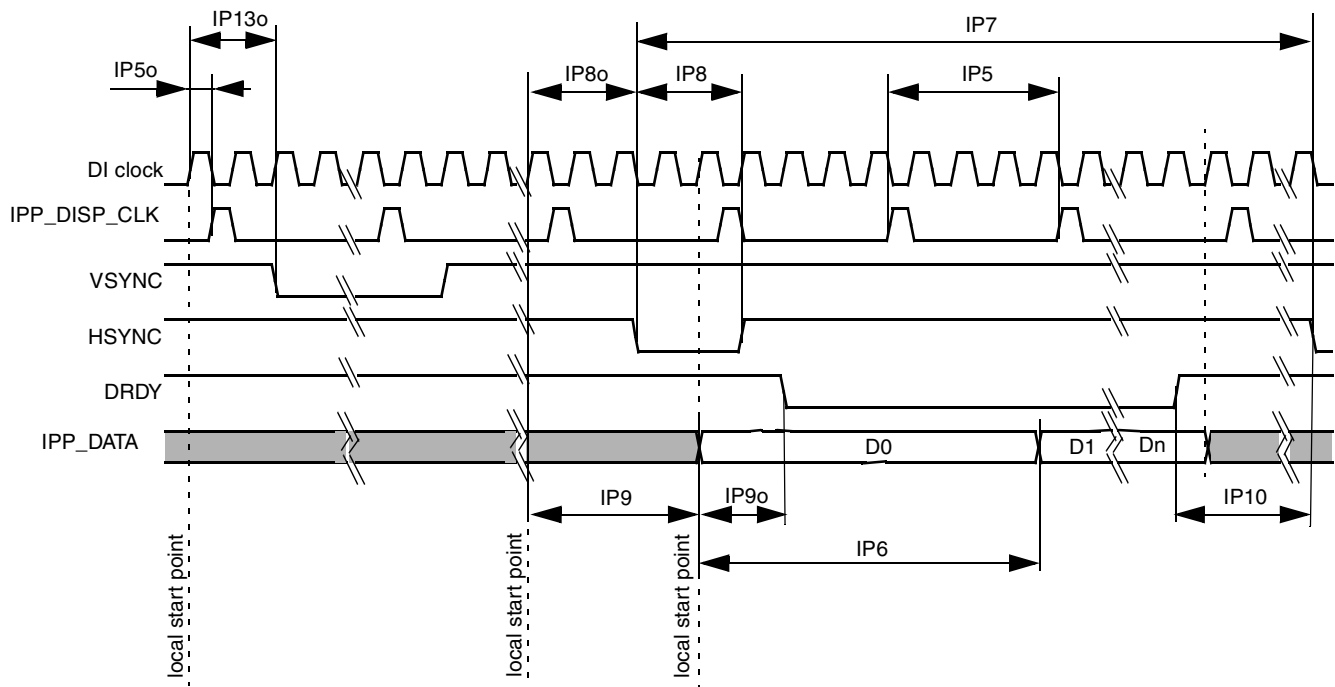

**Figure 53. Interface Timing Diagram for TFT (Active Matrix) Panels**
**Figure 53** depicts the LCD interface timing for a generic active matrix color TFT panel. In this figure signals are shown with negative polarity. The sequence of events for active matrix interface timing is: